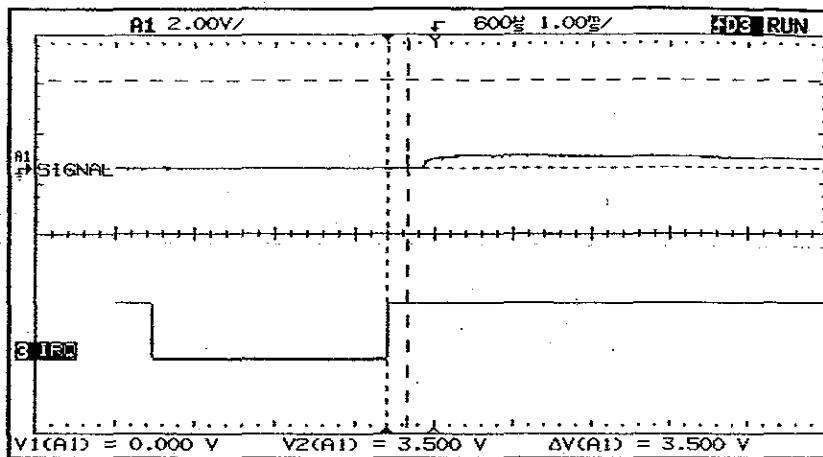

Figure 78
8. Carefully tilt the Monitor. Verify that after $\approx 270\mu s$ from the rising edge of TP4, there is no pulse $>3.5V$ (see Figure 78).